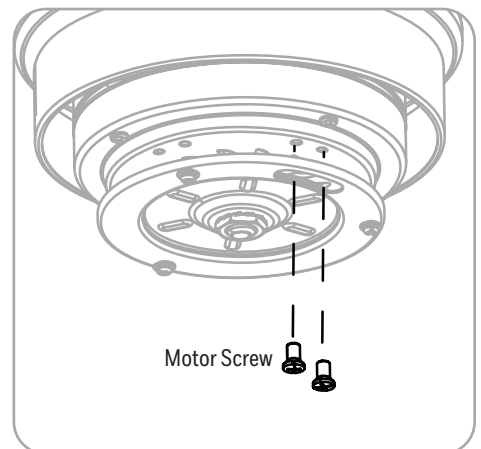

Figure 2.3
3. Remove the 10 motor screws from the underside of the motor assembly and save for blade arm assembly (Figure 2.3).